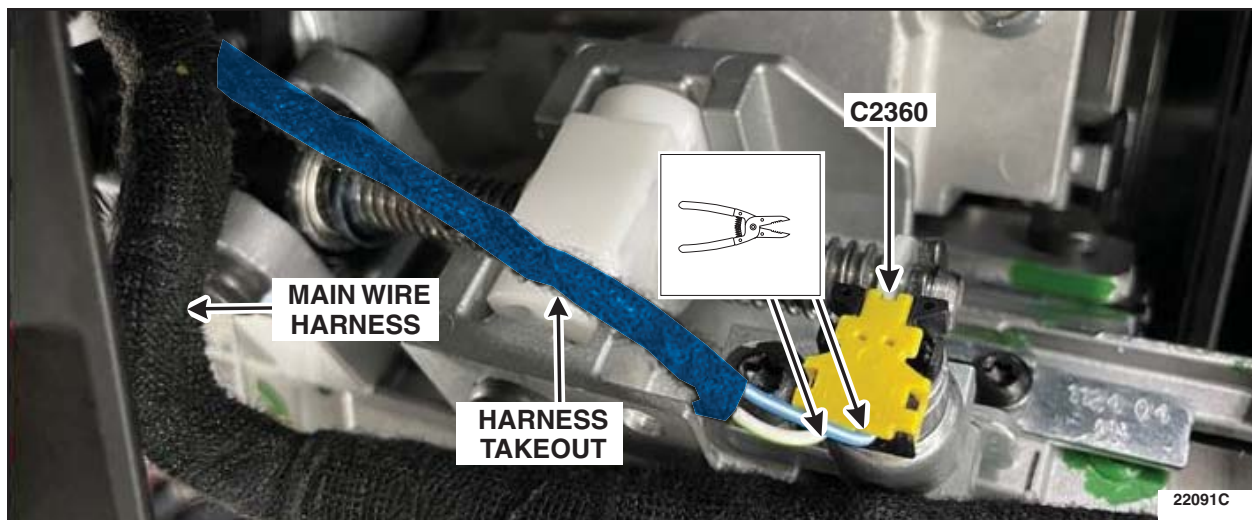

FIGURE 4
3. Disconnect C2360 and cut the wires as close as possible to the back of the connector to preserve the maximum wiring harness takeout length. See Figure 4.